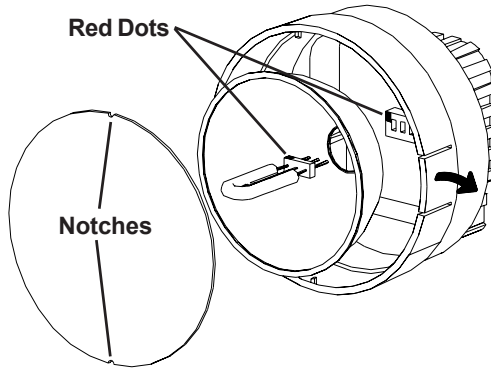

Figure 4 Lamp Replacement
The AC Powered stroboscope has a replaceable fuse inside the unit, which may be accessed by removing the lens and reflector - refer to Figure 4. If the fuse needs to be replaced, replace only with a fuse of the same type and value: Fast Blow - 750mA, 2AG.
while pushing it into place (see Figure 4). Make sure the lamp is in straight and centered in the reflector hole.
4. Reinstall the reflector and then position the front lens in place matching up the notches on the lens with the two small tabs on the housing to prevent lens rotation (see Figure 4). Push the tabs on the front rim outward and press the lens into place.